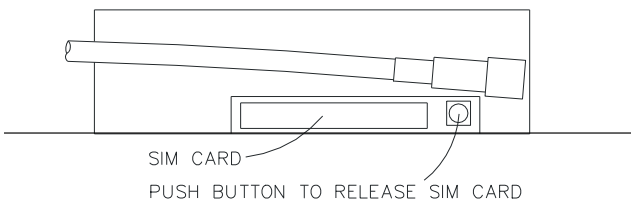

Figure 27 Rear View of Modem Module
- You will see a silver Modem Module on the circuit board. On the edge closest to you is where you will find the SIM card holder (Figure 27 below).